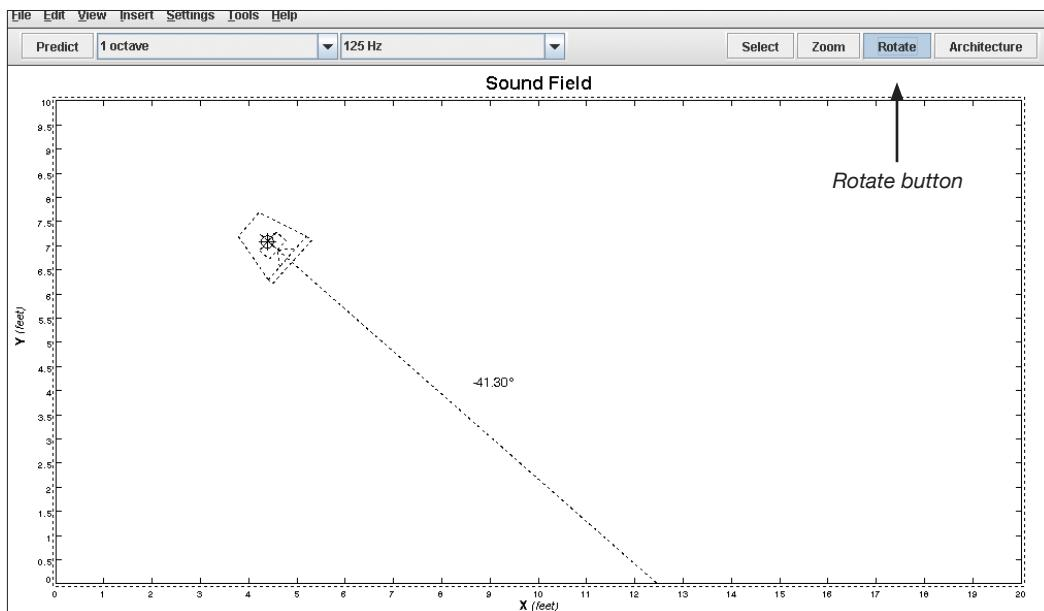

Figure 12. Rotate an object after selecting it or its center line.
5. The degree of angle change from the current loudspeaker position will be show numerically next to the cursor (Figure 12), with the current position of the loudspeaker being designated as 0 degrees.